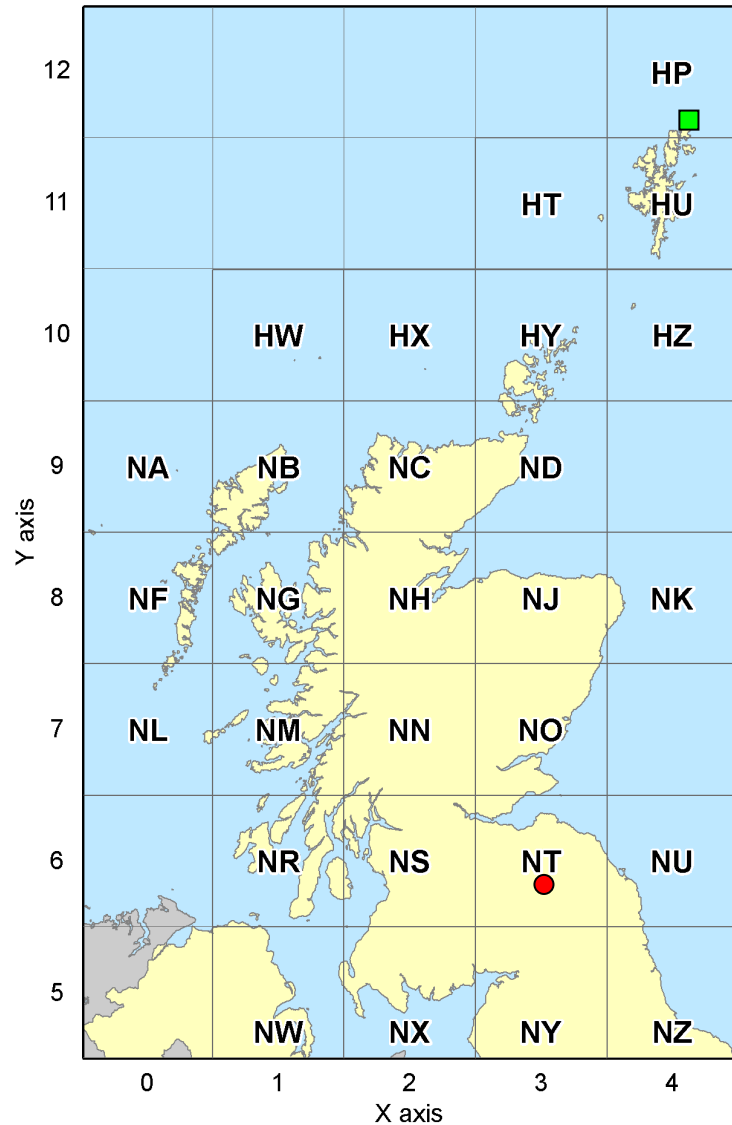

Figure 1 – British National Grid
●	<p>Hollybush Using the map for the area, the OS grid reference can be defined as NT 483 337.</p> <p>To convert this to an Easting and Northing:</p> <ul style="list-style-type: none"> - Look at Figure 1 and find square NT. Using the numbered axes, read of the two numbers that the square represents. In this case 3 (X axis) and 6 (Y axis). - An Easting and Northing is made up of two groups of six numbers (the exception being Orkney and Shetland, here it is a single group of six and a single group of seven), - Take the OS grid reference and split the number part into two equal groups. The X axis number goes in front of the first group and the Y axis number goes in front of the second group: (X axis)483 (Y axis)337 = (3)483 (6)337. - As an Easting and Northing has either a 6-6 or 6-7 format, you will need to add two zeros to the end of the two number groups from the last step: (3)483(00) (6)337(00). - The Easting and Northing can therefore be defined as – 348300 633700. <p>A GPS could be used and the resulting Easting and Northing is defined as: 348357 633742.</p>
■	<p>Little Heog Using the map for the area, the OS grid reference can be defined as HP 636 109.</p> <p>To convert this to an Easting and Northing:</p> <ul style="list-style-type: none"> - Look at Figure 1 and find square HP. Using the numbered axes, read of the two numbers that the square represents. In this case 4 (X axis) and 12 (Y axis). - An Easting and Northing is made up of two groups of six numbers (the exception being Orkney and Shetland, here it is a single group of six and a single group of seven), - Take the OS grid reference and split the number part into two equal groups. The X axis number goes in front of the first group and the Y axis number goes in front of the second group: (X axis)636 (Y axis)109 = (4)636 (12)109. - As an Easting and Northing has either a 6-6 or 6-7 format, you will need to add two zeros to the end of the two number groups from the last step: (4)636(00) (12)109(00). - The Easting and Northing can therefore be defined as – 463600 1210900. <p>A GPS could be used and the resulting Easting and Northing is defined as: 463631 1010911.</p>